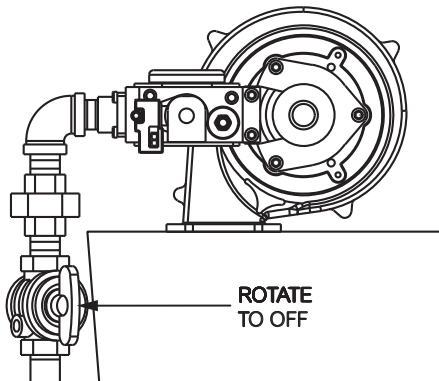

Fig. 47: Shut-Off Valve & Venturi Location 88AR thru 108AR
3. Turn Supply Gas OFF and/or turn the Manual Valve to the OFF position (see Fig 47).